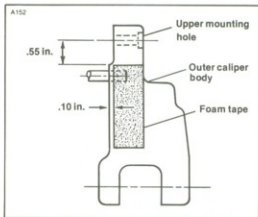

Figure 2-56. Foam Tape Installation — FX Models
FRONT BRAKE CALIPER - FX 1983 AND EARLIER (Figure 2-56, 2-57)
- See figure 2-56. Remove the paper backing from the foam and apply to the front of the outer caliper body. Do not remove the protective Mylar from the foam. Apply a thin coating of Loctite ANTI-SEIZE to the mounting screw and reinstall the caliper using a new locknut. Tighten the screw to 80 to 90 in-lbs torque.